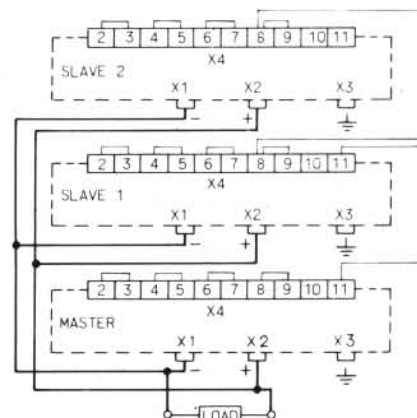

Fig. 8i. Parallel connection according to "Master-Slave" system
- b. By connecting in accordance with the Master and Slave system (see Fig. 8i.) The maximum output current for all instruments in this system is adjusted with R3 and R4 from the master instrument. R3 and R4 of the slave instruments are inoperative. The output current of the slave instruments is equal to the output current set on the master instrument. The output voltage of the slave instruments must be adjusted higher (2 % approx.) than the output voltage of the master instrument.